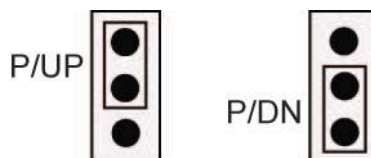

Figure 10. Pull-up/down jumper configuration
5. Configure each jumper for pull-up or pull-down, as shown in Figure 10. Use the jumper labeled **DIO A** to configure Port A, and **DIO B** to configure Port B.